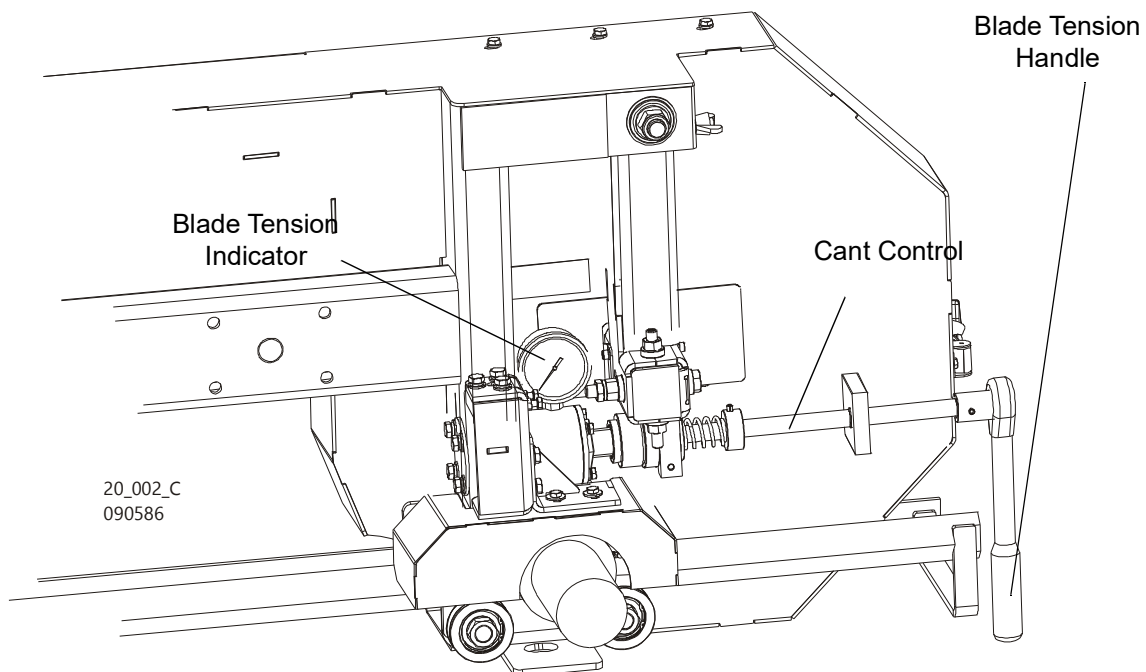

FIG. 2-21.
See Figure 2-21. Turn the blade tension handle clockwise until the tension gauge indicates the recommended tension. Check the blade tension occasionally when adjusting the cant control or while cutting. As the blade and belts heat up and stretch, the blade tension will change. Also, ambient temperature changes can cause tension to change.
5. Use the cant adjustment bolt, shown in Figure 2-21 to adjust where the blade travels on the blade wheels.